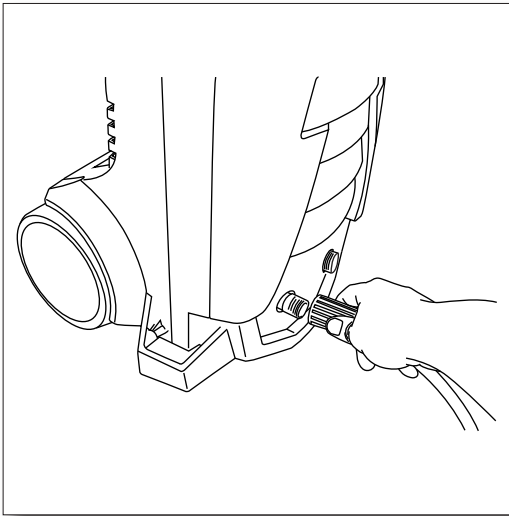

Fig. 4
- Screw the high pressure hose (clockwise) on the left of the unit at the bottom (**Fig. 4**). Pull back the collar and insert o-ring post into the water outlet far enough so the collar can thread onto the outlet threads until hand tight. Do not use pliers or vice grips to tighten. If it takes fewer than six or so turns you have not properly tightened the high pressure hose fitting. It is easier to position the power washer in front of you so to ensure that the threads are started correctly. Failure to properly tighten the high pressure hose will result in the hose slipping or popping off immediately upon turning the unit on. Do not worry about damage if this occurs - just reinstall and take extra care at screwing on the high pressure hose fitting.